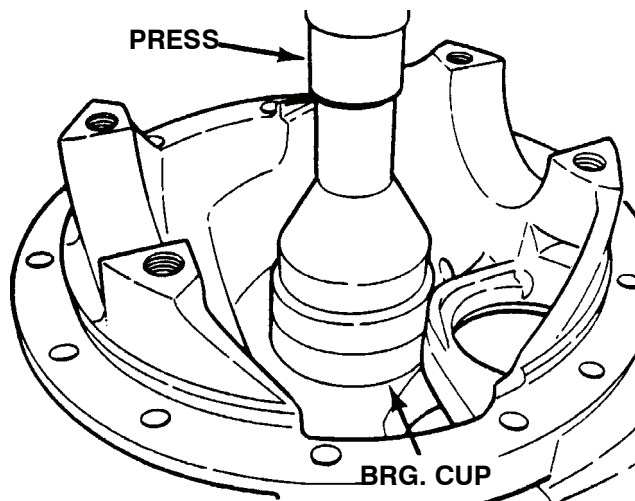

Figure 50.
- (2) Block up carrier in a safe manner and press inner (rear) bearing cup into bore against shim, or shim combination, using a suitable sleeve. If a press is not available use a sleeve or brass drift and mallet to tap bearing cup into position. Refer to Figure 50.